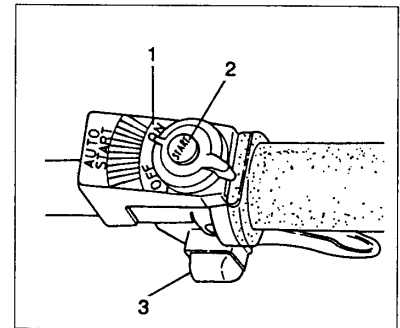

Fig. 2-2B
5. Turn the switch to the "ON"(1) position and depress the start button (2) until the engine starts. Warm the engine by running at idle speed for 2 to 3 minutes. (Fig. 2-2B)
Stopping (Fig. 2-2B)